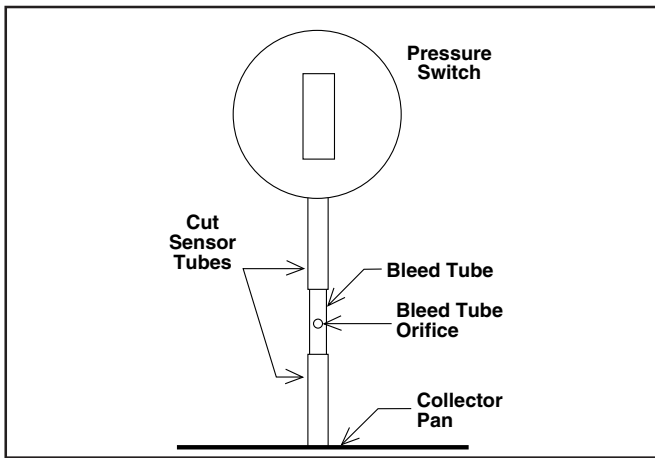

Figure 12. Bleed Tube Installation
1. Remove the rubber tubing from the pressure switch sensor tube and the collector pan sensor tube. Cut 1/2 inch from one end of the rubber sensor tube, fold in half and cut along the bend line. Discard the 1/2 inch long piece of tubing. Select the correct bleed tube using the table supplied with vent kit #903196 and place the other two pieces of tubing on both ends of the bleed tube. Do not cover the hole in the bleed tube. Place the assembly back on the pressure switch sensor tube and the collector pan sensor tube. (See Figure 12.)